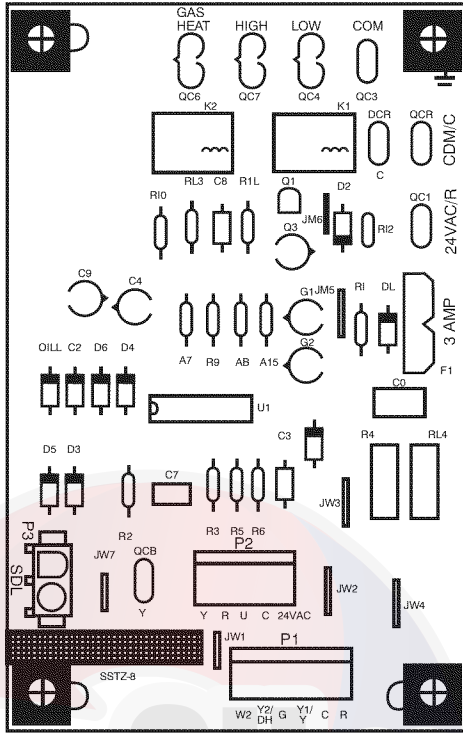

Fig. 17 - Interface Fan Board (IFB)
This unit is factory-set up for use with a single cooling fan speed. The cooling speed is marked “LOW” on the interface fan board (IFB)(Fig. 17) . The factory-shipped settings are noted in Table 8. There are 3 additional speed tap wires available for use in either gas heating or cooling (For color coding on the indoor fan motor leads, see Table 6). The additional 3 speed tap wires are shipped loose with vinyl caps and are located in the control box, near the interface fan board (IFB) (Fig. 17).
2. Remove the current speed tap wire from the “GAS HEAT” terminal on the interface fan board (IFB) (Fig. 17) and place vinyl cap over the connector on the wire.
2. Remove the current speed tap wire from the “LOW” terminal on the interface fan board (IFB) (Fig. 17) and place vinyl cap over the connector on the wire.
1. Remove fan speed tap wire from the “LOW” terminal on the interface fan board (IFB) (Fig. 17).
When the DEHUM feature is not used, the continuous fan speed will be the same as cooling fan speed. When the DEHUM feature is used, the continuous fan speed will operate on IFB "LOW" speed when the DH control lead is not energized, or IFB "HIGH" speed when the DH lead is energized (see Fig. 17).